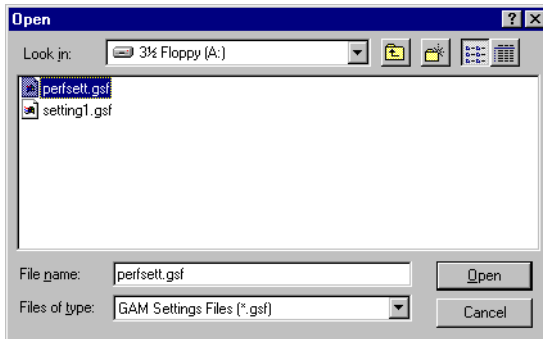

Figure 5-32. Open Previously Saved Settings
1. Click Open Settings. An Open dialog box is displayed (Figure 5-32).